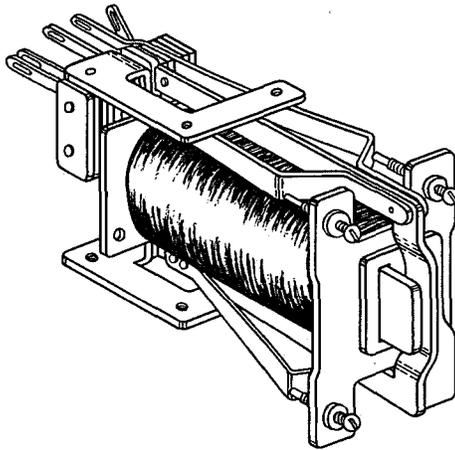

Fig. 3 - B- and G-type Relays - Modified Design
2. To add Figs. 3 and 4. Figs. 5, 6, 7, and 8 were 3, 4, 5, and 6, respectively.